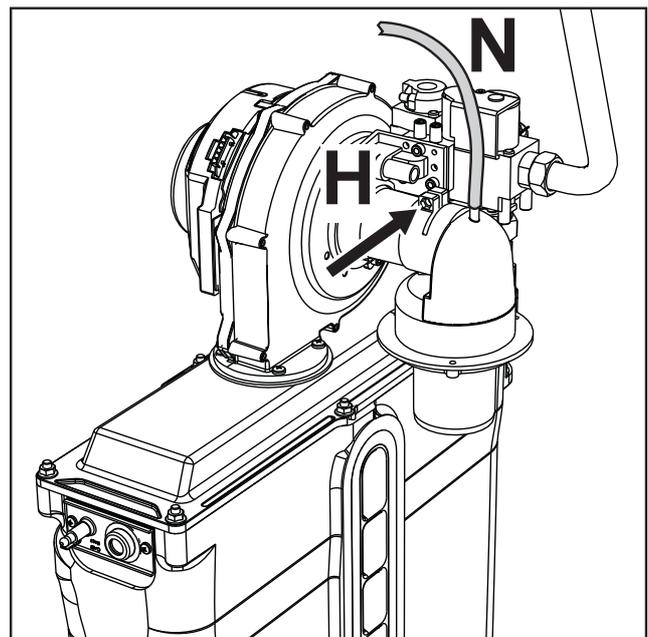

fig. 79
3. Remove the compensation tube "N" and loosen the screw "H" (see fig. 79).